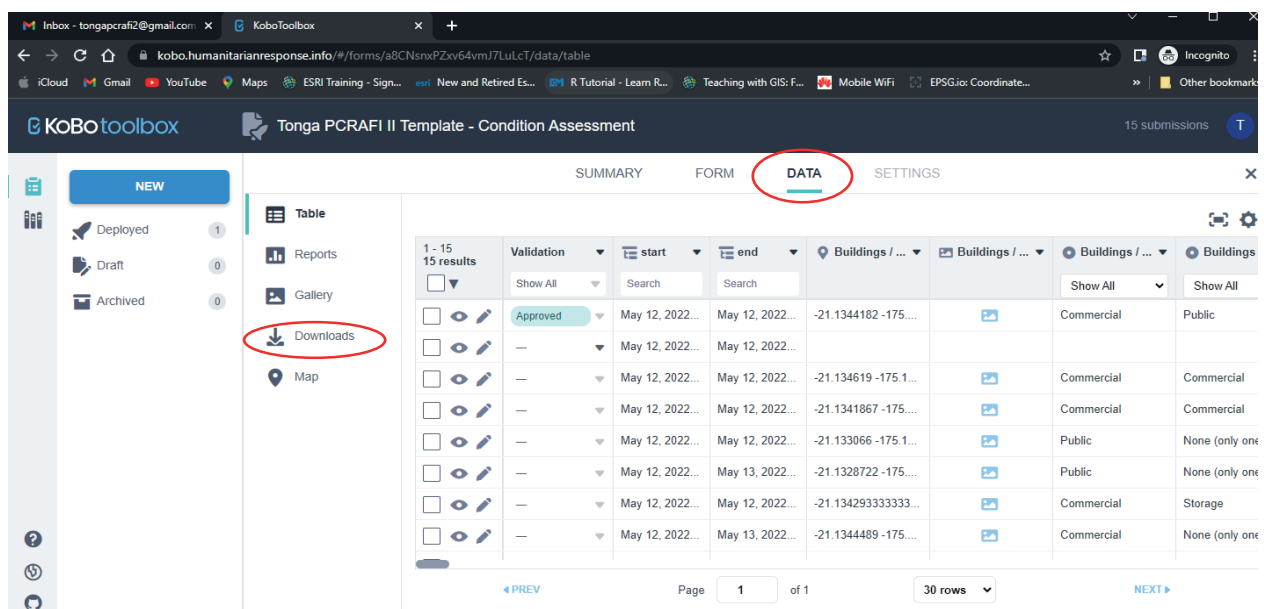

Figure 80: Click in downloads to download the forms
1. Click on the “Downloads” tab on the right side of the page OR the “DATA” tab on the top of the page to download/export data. (Figure 80)